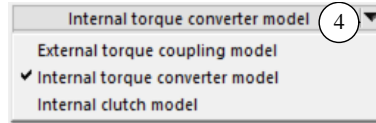
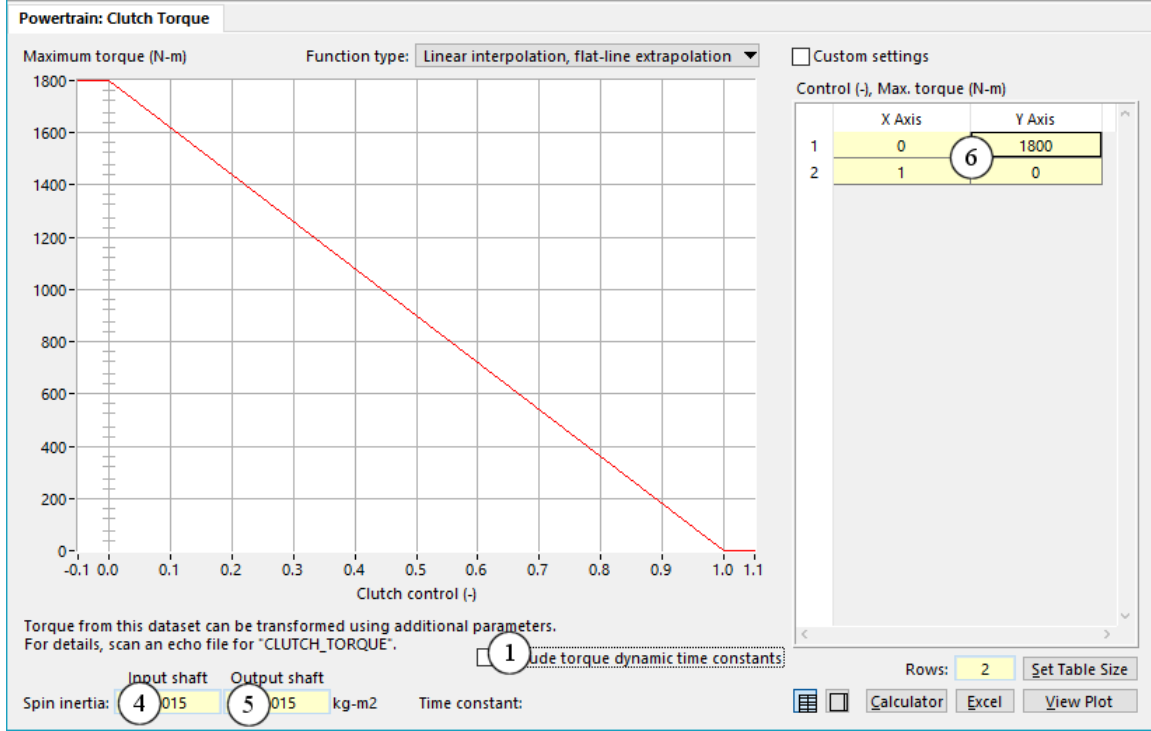

Figure 21. Options for torque converters with internal-combustion engine.
Figure 24. Screen for a mechanical clutch.
Torque is transmitted from the engine to the transmission by either a hydraulic torque converter or a mechanical clutch. The type of torque transfer is specified with the parameter OPT_CLUTCH. This parameter is set automatically based on the type of library selected from the Powertrain top-level screen ring control (④, Figure 15 and Figure 21).
If the internal clutch model is selected the Powertrain top-level screen ring control (④, Figure 15 and Figure 21, page 21), a link is made to the **Powertrain: Clutch Torque** library (Figure 24, page 25). The linked dataset sets the parameter `OPT_CLUTCH` to 1, enabling the built-in clutch model.
Figure 24 shows the **Powertrain: Clutch Torque** screen with the following controls.